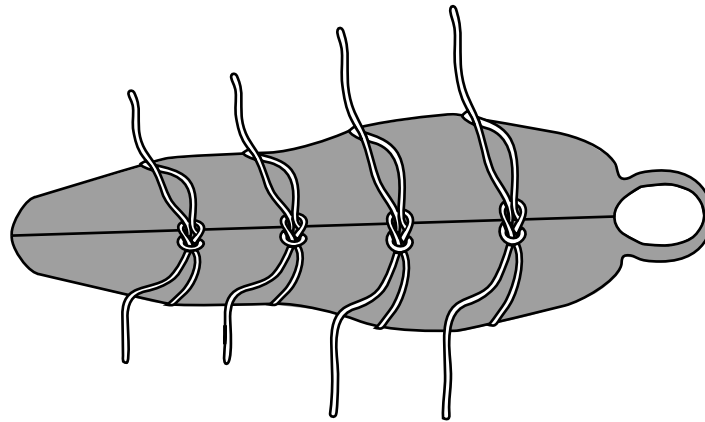

Figure 8-4. Pole Carry Rope Placement.
- One sling rope is placed under the casualty below the armpits and tied with a square knot across the casualty's chest. The second sling rope is tied in the same manner at the casualty's waist. The third sling rope is placed at the casualty's legs below the knee. The fourth sling rope is tied around the ankles (see Figure 8-4).